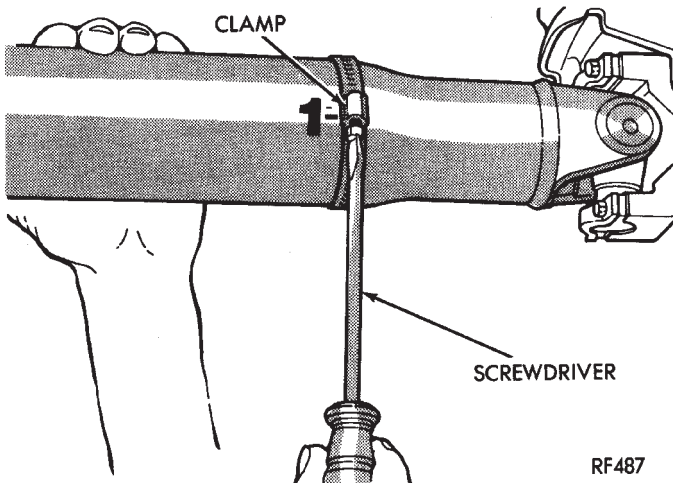
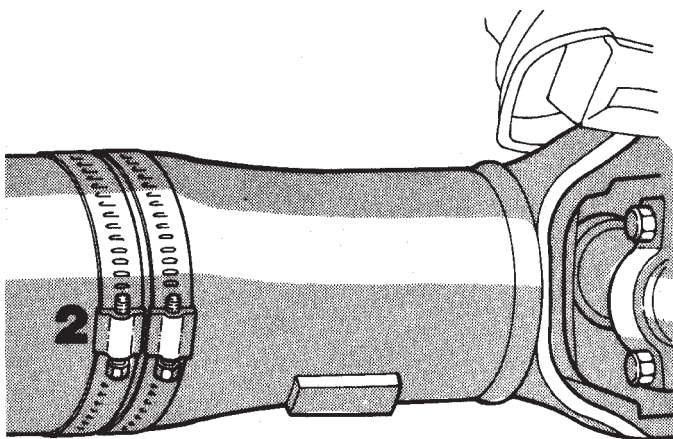

Fig. 1 Clamp Screw At Position 1
Fig. 2 Two Clamp Screws At The Same Position
- (1) Raise the vehicle.
- (2) Remove the wheel and tires. Install the wheel lug nuts to retain the brake drums.
- (3) Mark and number the prop shaft tube six inches from the yoke end at four positions 90° apart.
- (4) Run and accelerate the vehicle until vibration occurs. Note the intensity and speed the vibration occurred. Stop the engine.
- (5) Install a screw clamp at **Position 1** (Fig. 1).
- (6) Start the engine and re-check for vibration. If there is little or no change in vibration, move the clamp to one of the other three positions. Repeat the vibration test.
- (7) If there is no change in vibration, the vibration may not be caused by prop shaft unbalance.
- (8) If the vibration decreased, install a second clamp (Fig. 2). Repeat the vibration test.
- (9) If the clamps cause an additional unbalanced